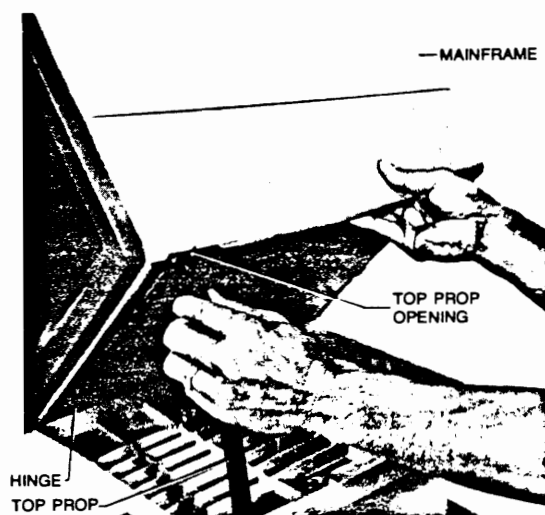

Figure 2-3. Freeing Mainframe from the Top Prop
7. Free the mainframe from the top prop by squeezing the upper end of the top prop (figure 2-3) while exerting an upward force on the left side of the mainframe.
8. With the mainframe free of the top prop, slide the mainframe forward an additional 1/4-inch past the detents until the right side clears the fixed hinges (figure 2-3) on the right side of the support; then lift the mainframe free of the support.
2. While guiding the top prop so it enters the top prop opening (figure 2-3) in the lower left edge of the mainframe, lower the left side of the mainframe until the top prop locks the mainframe in the half-open (service) position.